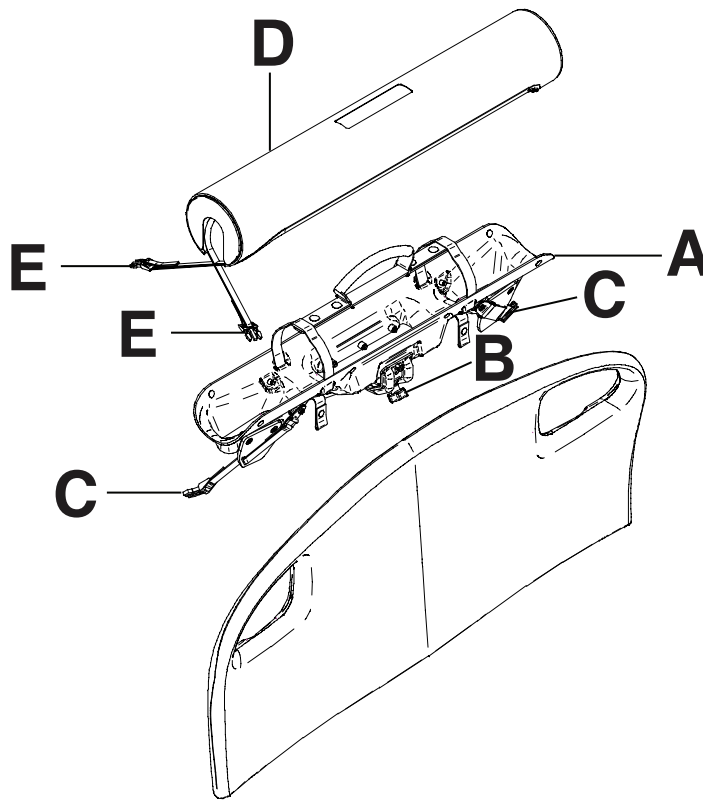

Figure 133: Right fit oxygen bottle holder
1. Place the oxygen bottle holder on top of the headboard (A) (Figure 133 on page 116).
2. Screw on the oxygen bottle holder clasp onto the headboard (B) (Figure 133 on page 116) to secure the bottle holder to the product.
3. Route the bottom straps (C) through the headboard handles (Figure 133 on page 116).
6. Place the oxygen bottle holder cover on top of the oxygen bottle (D) (Figure 133 on page 116).
7. Fasten the oxygen bottle holder cover straps together (E) (Figure 133 on page 116).